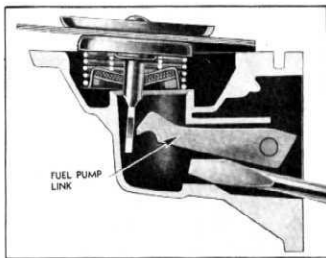

Fig. 111—Method of Assembling Fuel Pump Diaphragm to Link
- Raise the fuel pump link with a screwdriver (fig. 111), install the diaphragm spring and hook the diaphragm pull rod over the end of the link.